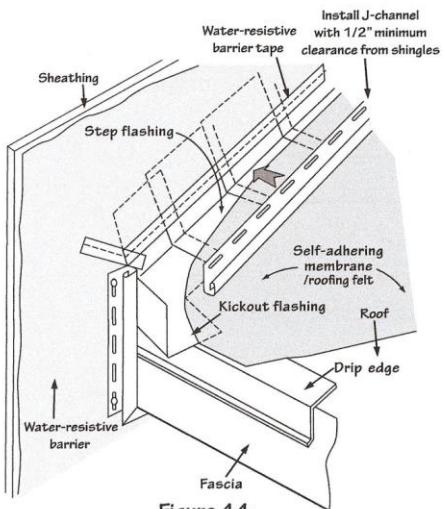

Figure 44.
- As an alternative to the diverter, create a "kickout" from metal flashing, as shown in Fig. 44.
NOTE: "Kickout flashing" (Fig. 44) is an additional flashing strip that extends beyond the edge of the fascia that is required in some cold-climate localities.